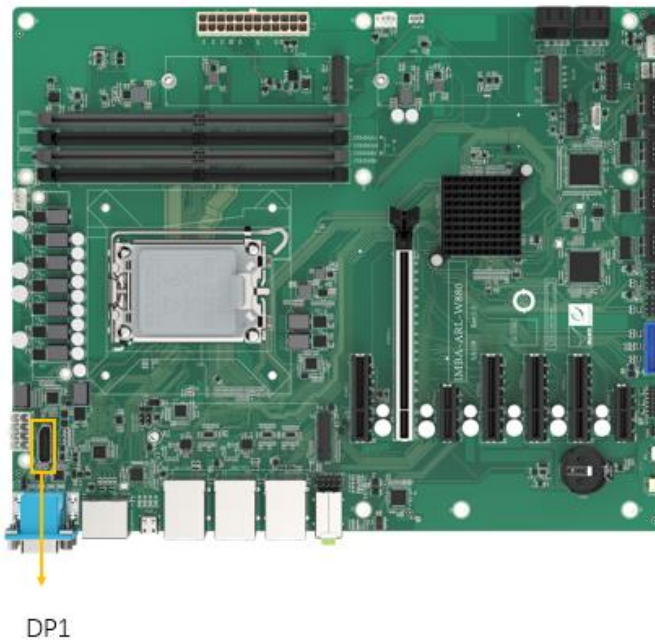

Figure 3-26: DP Connector Location
**CN Location:** See Figure 3-26